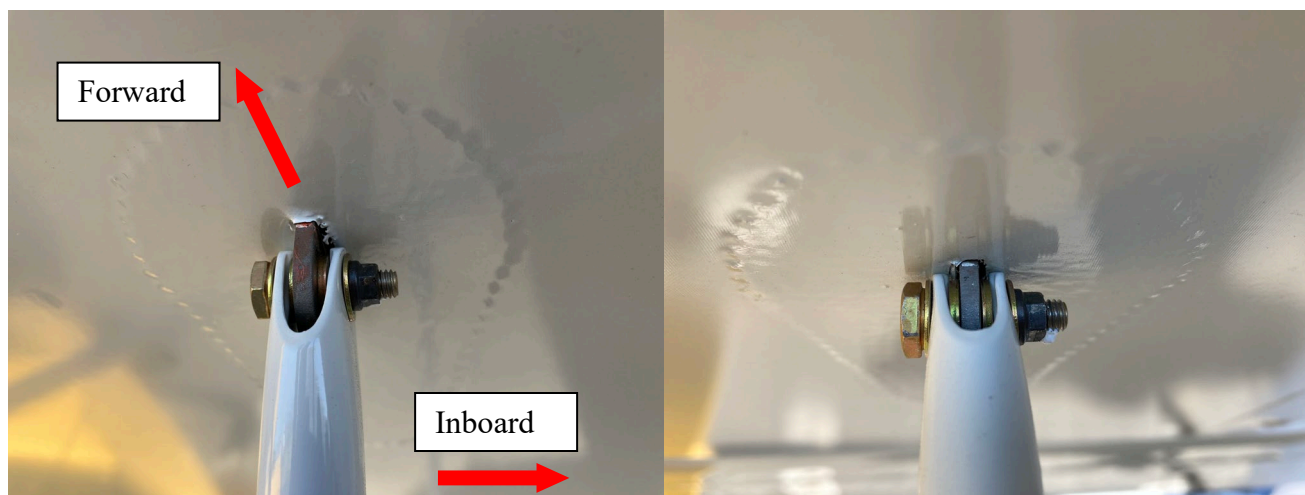

FIGURE 1 – Forward and Aft Jury Strut Attachments (Right Wing)
2. During the preflight inspection, verify the hardware installation at the top of both the forward and aft jury struts where they are attached to the wing brackets (see Figures 1 and 5).